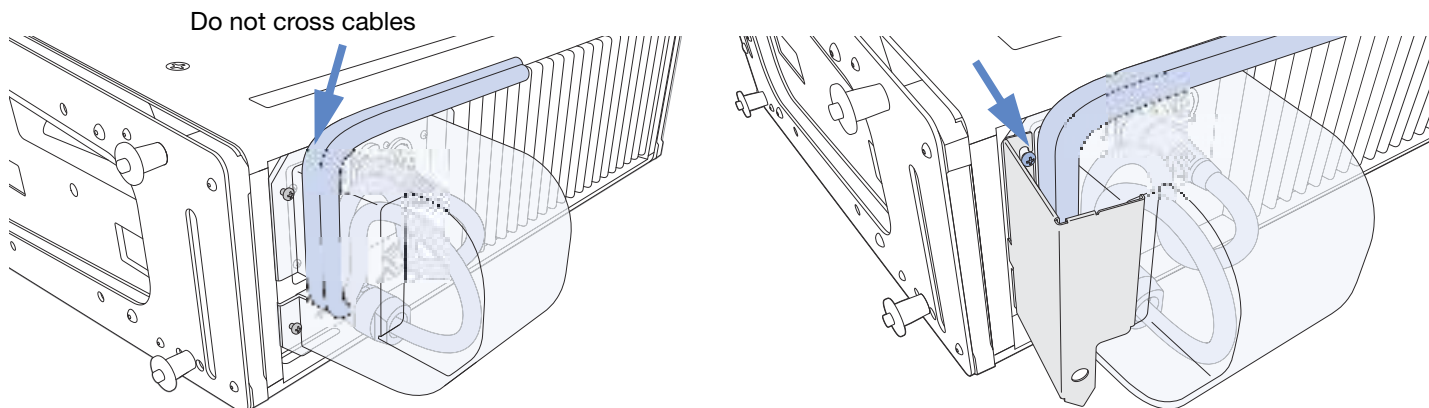

Figure 49: Routing Cables over Rain Hood (left) and Hooking Shield over Securing Screws (right)
4. Engage 2-3 threads on the upper- and lower-left screws. The cables should exit to the left when viewing from the rear of the loudspeaker. Do not cross the cables at the rain hood opening (see Figure 49, right).
5. Route the cables up and over the top of the rain hood between the shield and the rain hood. Do not cross the cables (see Figure 49, left).
6. Angle the shield and hook the slots in the L-shaped UW shield over both upper- and lower-left screws (when facing the rear of the loudspeaker, see Figure 49, right).